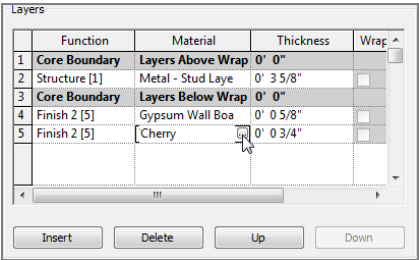

FIGURE 9.27: Click the button to change the material.
- 8. Click in the bottom layer's (5) Material column, and click the [...] button to change the material that is now Cherry, as shown in Figure 9.27.